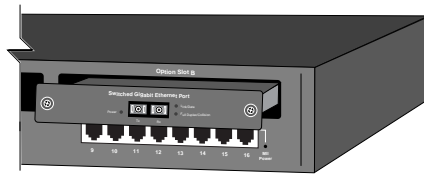

Figure 2-5 Installing a Gigabit module
- 3** Align the bottom of the Gigabit module with the rails on the inside of the expansion slot. See Figure 2-5.